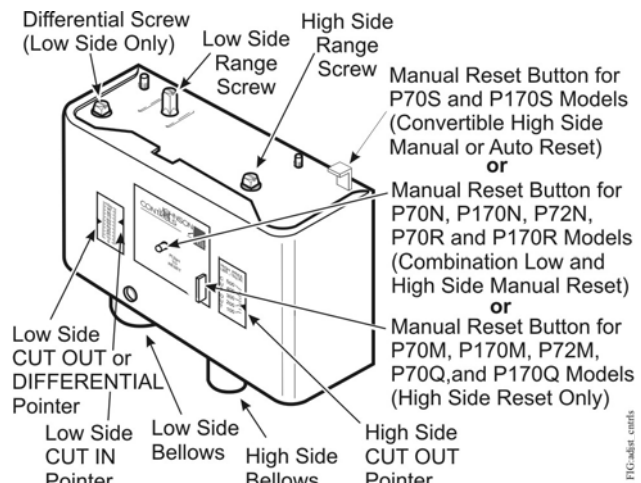

Figure 9: Adjusting the Dual Pressure Controls
Adjustment of the P70, P72, and P170 dual pressure controls varies depending on the model. The following guidelines and diagrams illustrate the procedures for adjusting these controls. Refer to the product label inside the control cover for model number and switch action, and check the front of the control cover to determine if the control is All-Range or MICRO-SET® model. See Figure 9 for an illustration and instructions on control adjustments.
4. Set the reset operation (on P70S and P170S models only) for high side automatic reset or manual reset lockout. See Convertible High Pressure Reset Mechanism on P70S and P170S Controls and Figure 9.